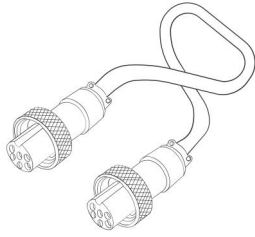

Figure 2-3
- Robotic Arm Signal Cable (Figure 2-3)